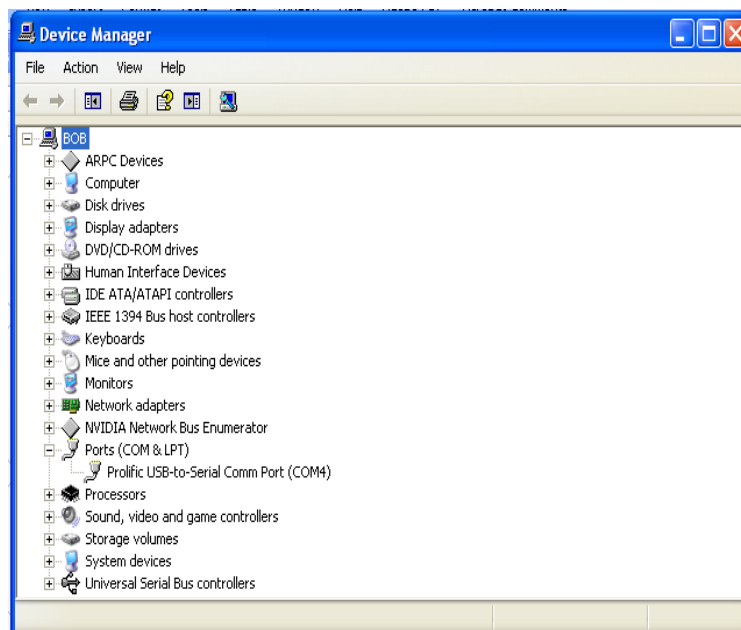

Figure 5-3: Assignment of COM Port Shown on Device Manager
- An entry for **Ports (COM & LPT)** will appear on the Device Manager list when a USB/Serial adapter cable is installed in the PC. For example, Figure 5-3 shows that the USB-to-Serial Com Port is assigned a value of 4 (COM4).